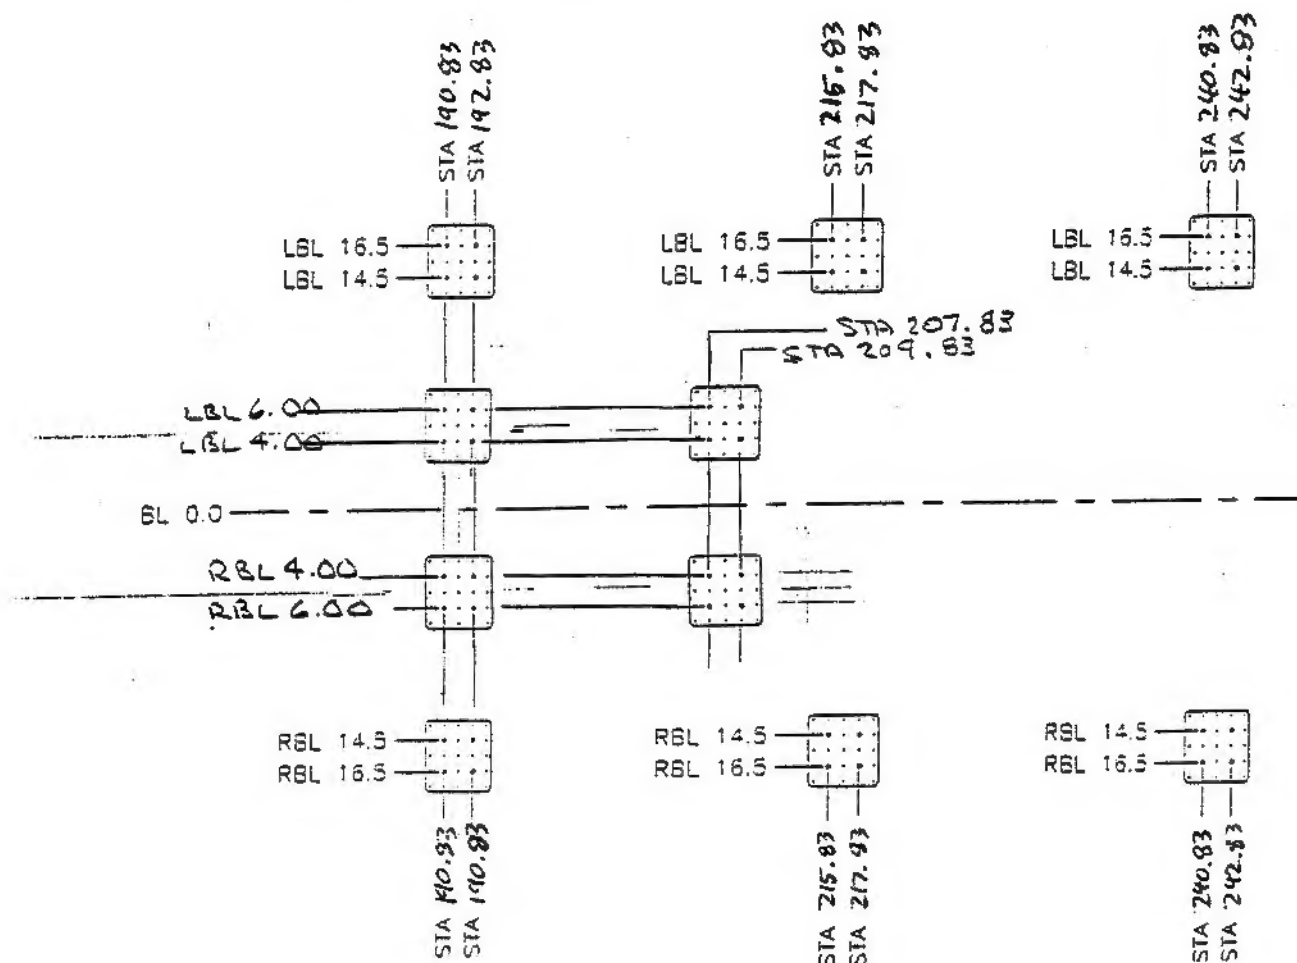

Figure 2 - Outer Doublers Locations
The following step by step procedures for the installation of the Dart Hardpoint Kit for the Bell 407 should be followed for successful installation of the Dart Hardpoint Kit. The locations of each of the 6 hardpoint outer doublers are illustrated in Figure 2.
2. Drill Ø0.098 pilot holes through the aircraft tub, penetrating the outer and inner skins (4 holes at each of 6 hardpoint locations) at the station line and butt line locations listed in Figure 2. Maintain holes perpendicular to the aircraft tub. The 2" hole spacing must be transferred to the inside of the tub.